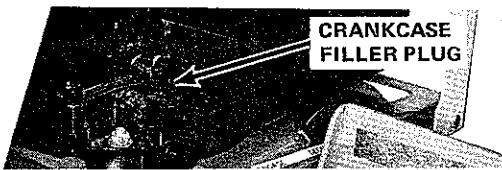

FIGURE 6
2. Engine Oil: Be sure the oil in the engine crankcase is at the proper level. See your Briggs and Stratton manual and page 9 of this manual. (Figure 6.)